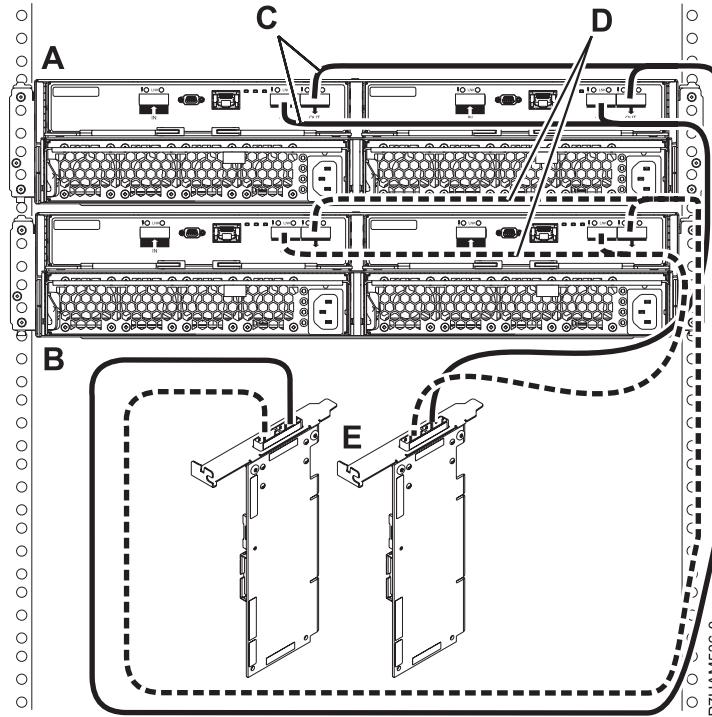

Figure 38. Mode 1 connection of two 58/87 disk drive enclosures by using YO cables to a SAS adapter pair
12. Perform the mode 1 connection of two 58/87 disk drive enclosures (**A and B**) by using YO cables (**C and D**) to a SAS adapter pair (**E**) as shown in Figure 38 on page 70.